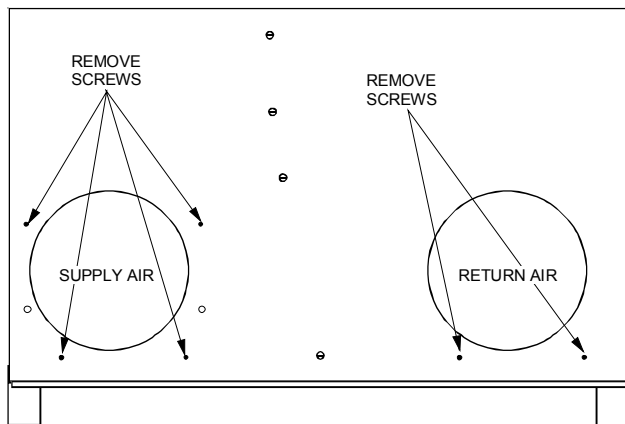

Figure 8 -Supply Air Side Screws Removal
- Remove and set aside the four supply air side screws (Figure 8).